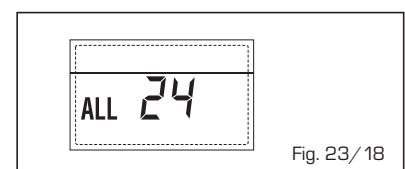

Fig. 23/18
- **ANOMALIA SONDA FERVIDOR SOLAR (S2) "ALL 25" (fig. 23/19)**